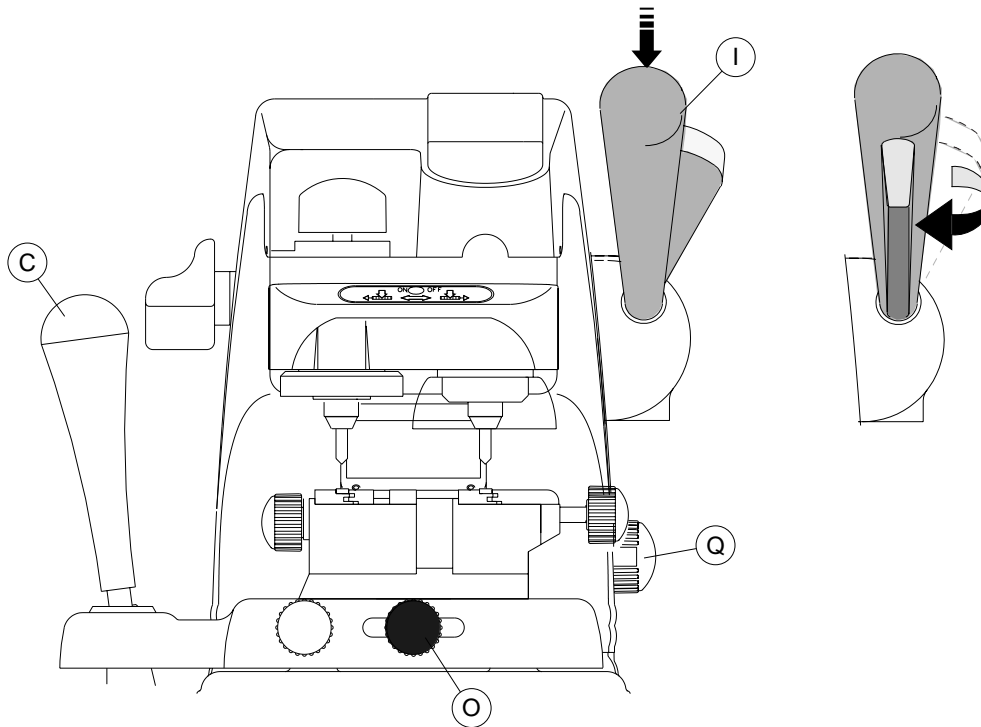

Fig. 18
- 4) secure the spindle at this height by turning the lever (I) clockwise (fig. 18).
- 5) carry out the cuts using only the left-hand lever (C).
- 1) before activating the start switch (Q), lower lever (I) close to the keys and regulate the spring system for laser (sidewinder) keys (ch. 5.3).
- 2) Start the cutting operation by activating switch (Q).
- 4) secure the spindle at this height by turning the lever (I) clockwise (fig.18, page 26).
- 5) carry out the cuts using only lever (C).
- 1) activate the Laser (sidewinder) key spring system with knob (O) (ch.5.3, page 21).
- 2) turn on switch (Q), lower the collet assembly and position on the beginning of the cut (ch. 6.4).
- 3) secure the spindle at this height by turning the lever (I) clockwise (fig.18, page 26).
- 4) carry out the cuts using only lever (C).